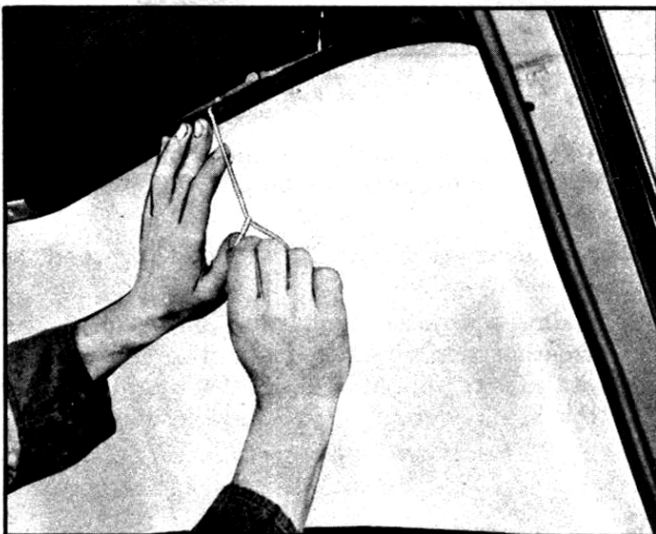

Fig. 5—Installing Windshield
11. While applying pressure against outside of glass, pull inner lip of weatherstrip over pinchweld by pulling in on end of cord (fig. 5).